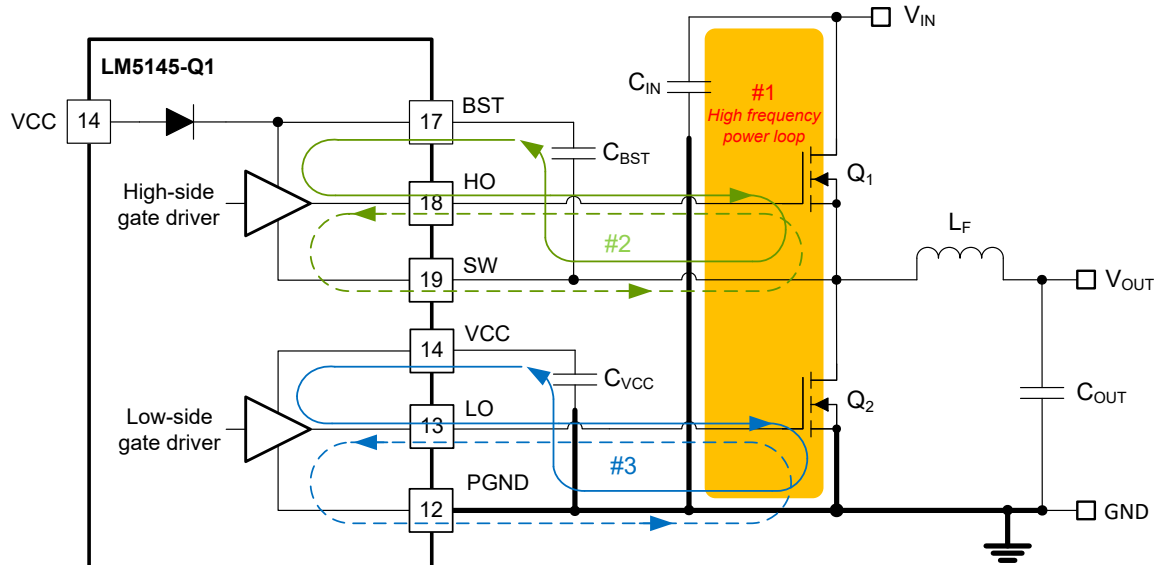

图 11-1. DC-DC Regulator Ground System With Power Stage and Gate Drive Circuit Switching Loops
Proper PCB design and layout is important in a high-current, fast-switching circuits (with high current and voltage slew rates) to assure appropriate device operation and design robustness. As expected, certain issues must be considered before designing a PCB layout using the LM5145-Q1. The high-frequency power loop of the buck converter power stage is denoted by #1 in the shaded area of 图 11-1. The topological architecture of a buck converter means that particularly high di/dt current flows in the components of loop 1, and it becomes mandatory to reduce the parasitic inductance of this loop by minimizing its effective loop area. Also important is the gate drive loops of the low-side and high-side MOSFETs, denoted by 2 and 3, respectively, in 图 11-1.
- Loop #1: The most important loop to minimize the area of is the path from the input capacitor or capacitors through the high- and low-side MOSFETs, and back to the capacitor or capacitors through the ground connection. Connect the input capacitor or capacitors negative terminal close to the source of the low-side MOSFET (at ground). Similarly, connect the input capacitor or capacitors positive terminal close to the drain of the high-side MOSFET (at V_{IN}). Refer to loop #1 of 图 11-1.
- The SW pin connects to the switch node of the power conversion stage and acts as the return path for the high-side gate driver. The parasitic inductance inherent to loop #1 in Figure 11-1 and the output capacitance (C_{OSS}) of both power MOSFETs form a resonant circuit that induces high frequency (> 100 MHz) ringing on the SW node. The voltage peak of this ringing, if not controlled, can be significantly higher than the input voltage. Ensure that the peak ringing amplitude does not exceed the absolute maximum rating limit for the SW pin. In many cases, a series resistor and capacitor snubber network connected from the SW node to GND damps the ringing and decreases the peak amplitude. Provide provisions for snubber network components in the PCB layout. If testing reveals that the ringing amplitude at the SW pin is excessive, then include snubber components as needed.
- Loop 2: high-side MOSFET, Q_1 . During the high-side MOSFET turnon, high current flows from the bootstrap (boot) capacitor through the gate driver and high-side MOSFET, and back to the negative terminal of the boot capacitor through the SW connection. Conversely, to turn off the high-side MOSFET, high current flows from the gate of the high-side MOSFET through the gate driver and SW, and back to the source of the high-side MOSFET through the SW trace. Refer to loop #2 of Figure 11-1.
- Loop 3: low-side MOSFET, Q_2 . During the low-side MOSFET turn-on, high current flows from the VCC decoupling capacitor through the gate driver and low-side MOSFET, and back to the negative terminal of the capacitor through ground. Conversely, to turn off the low-side MOSFET, high current flows from the gate of the low-side MOSFET through the gate driver and GND, and back to the source of the low-side MOSFET through ground. Refer to loop #3 of Figure 11-1.